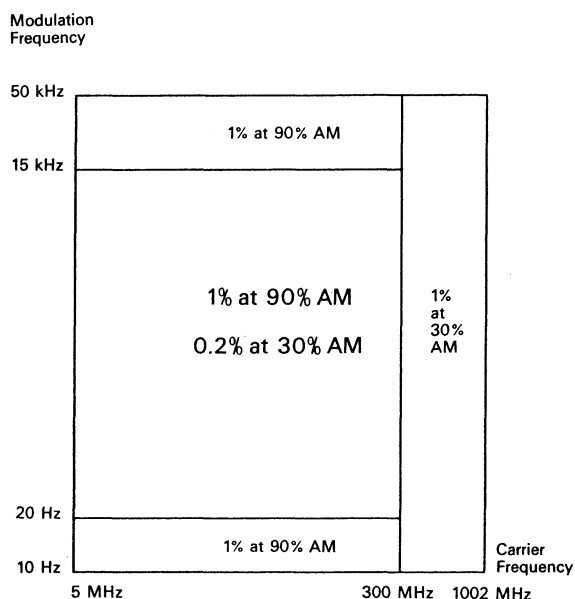

Fig.E2. Distortion for modulation percentage measurements.
15) Read the modulation percentage. Check if the reading is the same for both peaks of modulation: a difference indicates distortion of the modulation envelope. See Fig. E2, and refer to SECTION B - SPECIFICATIONS under "AM MODULATION Distortion".